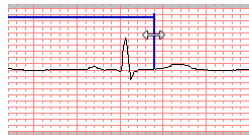

Figure 320 – Editing a defined Marker
2. Press and hold down the left mouse button and move the cursor to the new location (see Figure 320). The measurement border will move along with the cursor.